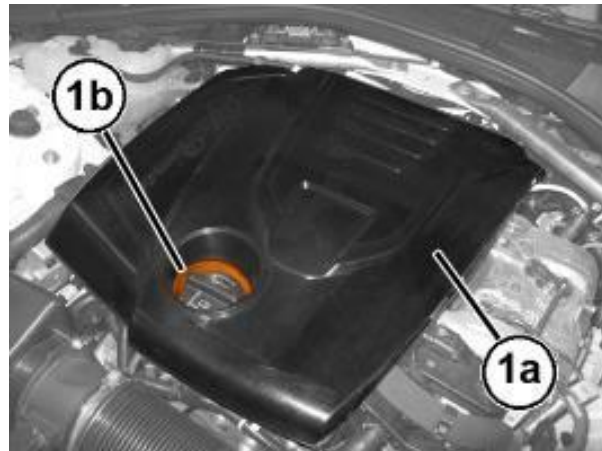

Figure 7 – Soundproofing Cover
16. Disengage from the retaining pins and remove the soundproofing cover (1a) complete with seal (1b) for the engine oil filler (Figure 7).